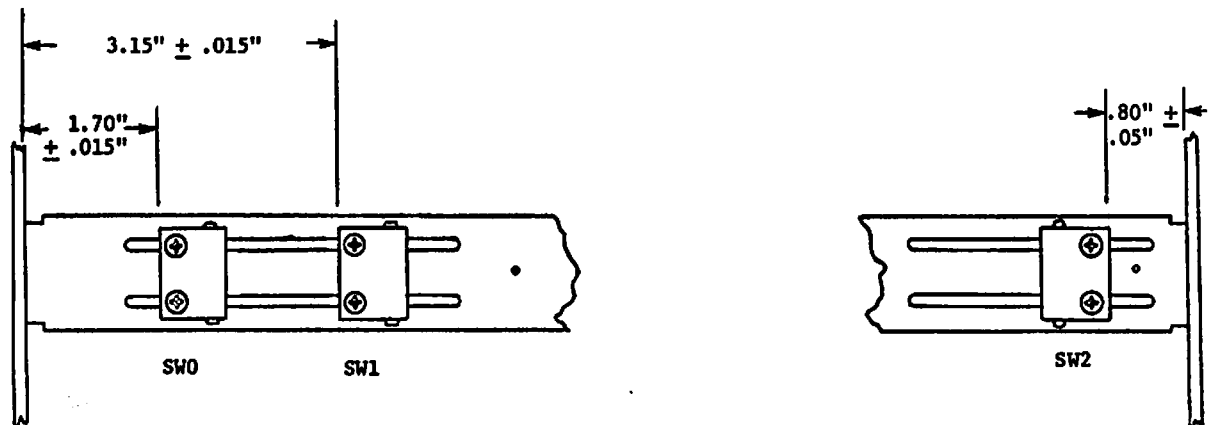

FIGURE 5-14 REED SWITCHES AND MOUNTING BRACKET
5.3.7 REED SWITCHES AND MOUNTING BRACKET (Figure 5-14, 15)
- 2) Loosen the four screws holding the reed switch bracket to side frames and move assembly up or down to adjust for $.060'' \pm .015''$ ($.152 \text{ cm} \pm .038 \text{ cm}$) gap between magnet and reed switch packages (Figure 5-14).